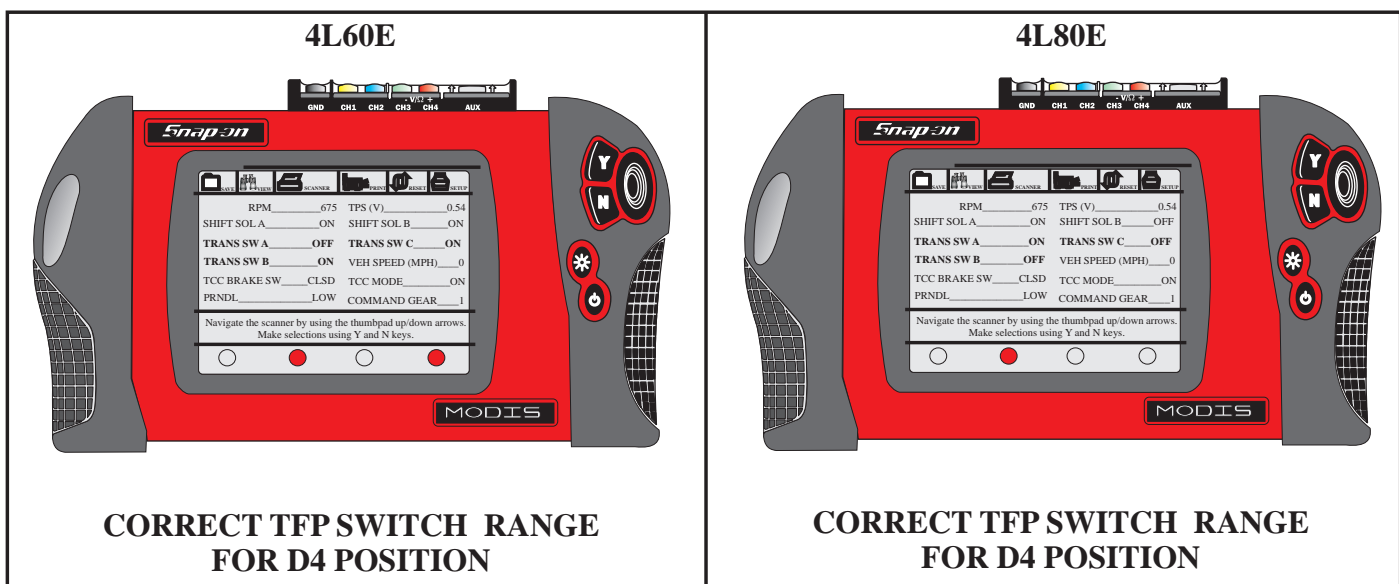

Figure 79
- Using the scan tool data list, (Refer to Figure 79), see if the TFP Switch is ranging correctly for the individual gear shift positions.